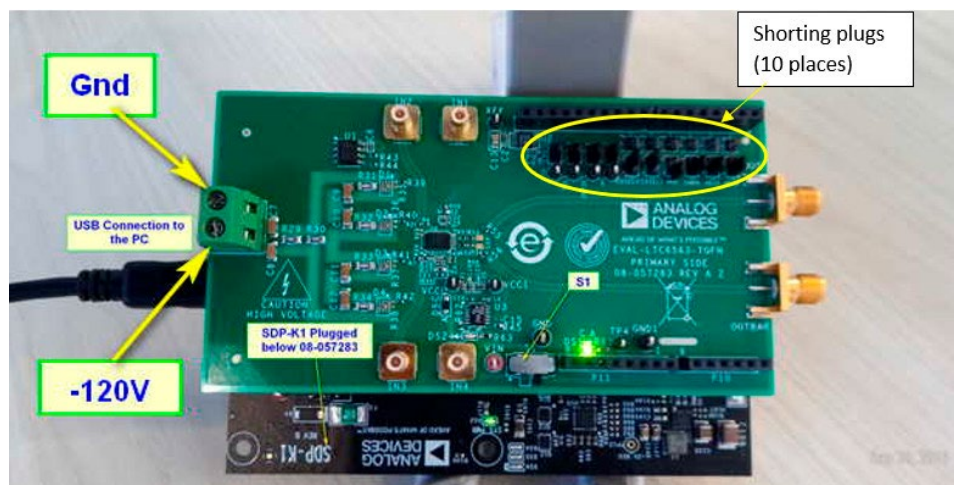

Figure 4. SDP-K1 Connection (WARNING: HIGH VOLTAGE PRESENT!)
3. Plug the SDP-K1 onto the bottom of EVAL-LTC6563-TQFN as shown in Figure 4 (if not already).
- a. Move EVAL-LTC6563-TQFN S1 switch to the right (towards connector P11, see Figure 4) to power the EVAL board using the SDP-K1 if not already.
7. Apply the external -120V DC power supply to P7 (pin 2) with pin 1 tied to power supply ground. This is the appropriate bias voltage for the APDs installed on the board. The connector and passives are rated up to 300V. See Figure 4 for the proper P7 high voltage polarity connection.
2. Apply the external -120V DC power supply to P7 (pin 2) with pin 1 tied to power supply ground. This is the appropriate bias voltage for the APDs installed on the board. The connector and passives are rated up to 300V. See Figure 4 for the proper P7 high voltage polarity connection.